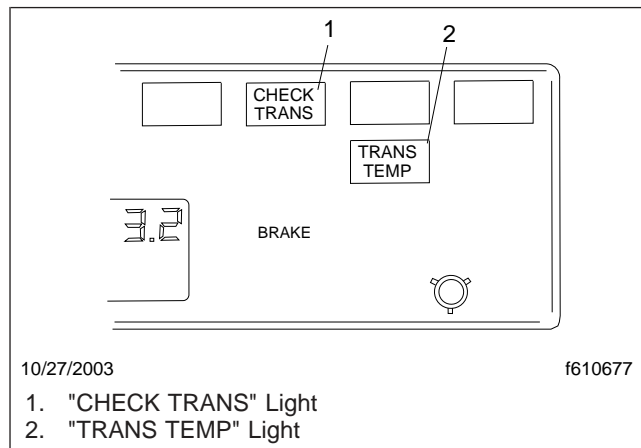

Fig. 8.23, Telltale Lights
1. With the parking brake set, select neutral (N) by moving the selector switch to the N position.
2. With the transmission in neutral, turn on the ignition switch. The "CHECK TRANS" and "TRANS TEMP" telltale lights come on and go out again (bulb check). See Fig. 8.23.